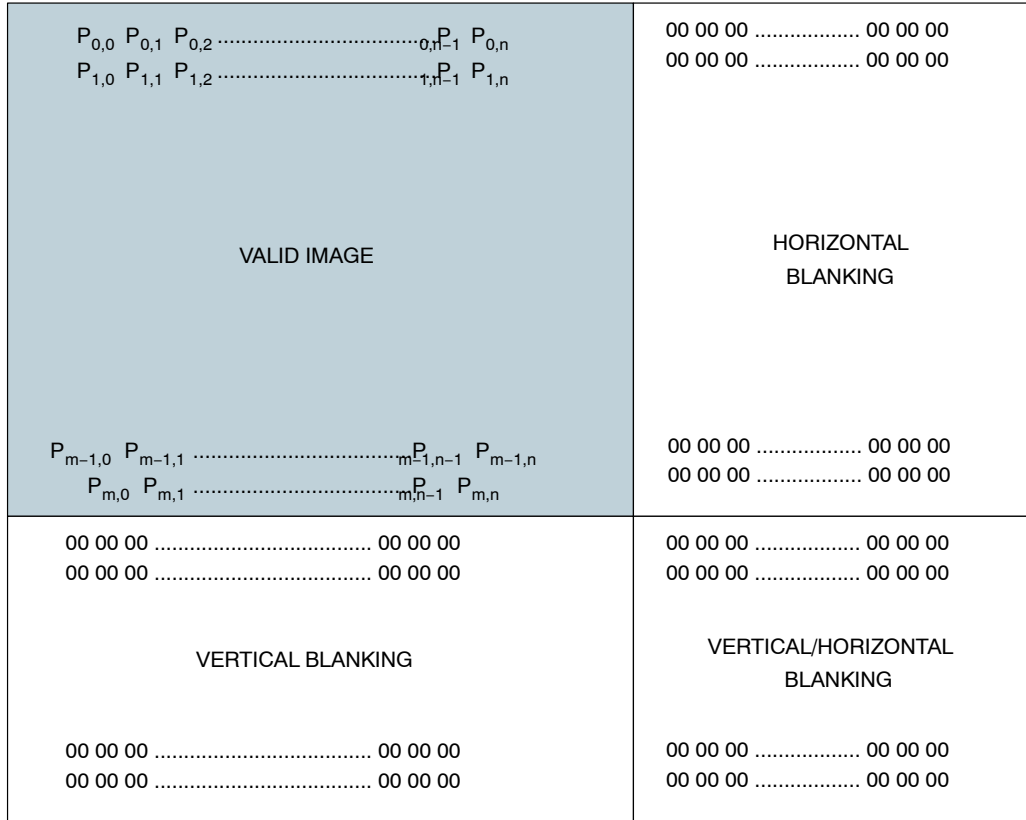

Figure 8. Spatial Illustration of Image Readout
The AR0130 image data is read out in a progressive scan. Valid image data is surrounded by horizontal and vertical blanking (see Figure 8). The amount of horizontal row time (in clocks) is programmable through R0x300C. The amount of vertical frame time (in rows) is programmable through
R0x300A. LINE_VALID (LV) is HIGH during the shaded region of Figure 8. Optional Embedded Register setup information and Histogram statistic information are available in first 2 and last row of image data.
Sensor timing is shown in terms of pixel clock cycles (see Figure 8). The recommended pixel clock frequency is 74.25 MHz. The vertical blanking and the total frame time equations assume that the integration time (coarse integration time plus fine integration time) is less than the number of active lines plus the blanking lines: